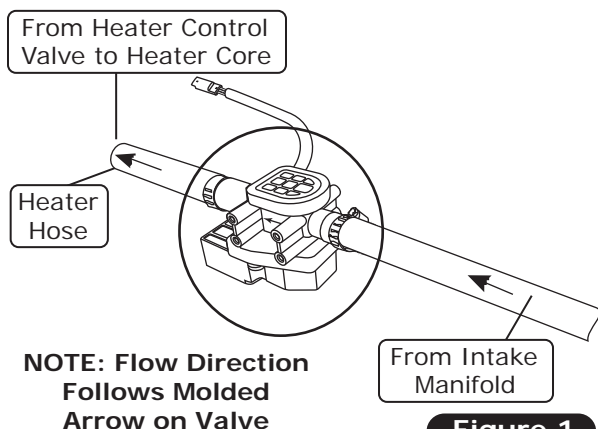

Figure 1
2. Cut a 5" section of heater hose about 2" from the firewall. Install the heater control valve, and secure it with (2) hose clamps (See Photo 1, below). Ensure the molded arrow is pointing towards the firewall. **NOTE: Ensure proper flow direction through the heater control valve. The flow direction follows the molded arrow on the valve (See Figure 1, below).**